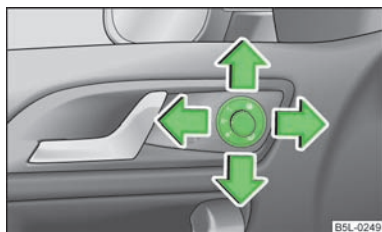

Fig. 40
► Place the rotary knob into the position  » Fig. 40.
On vehicles fitted with the memory function for the driver seat, the surface of the mirror tilts down slightly when the reverse gear is engaged and the rotary knob is in the position **R** » Fig. 40. This provides an aid in seeing the kerb of the pavement when parking the car.